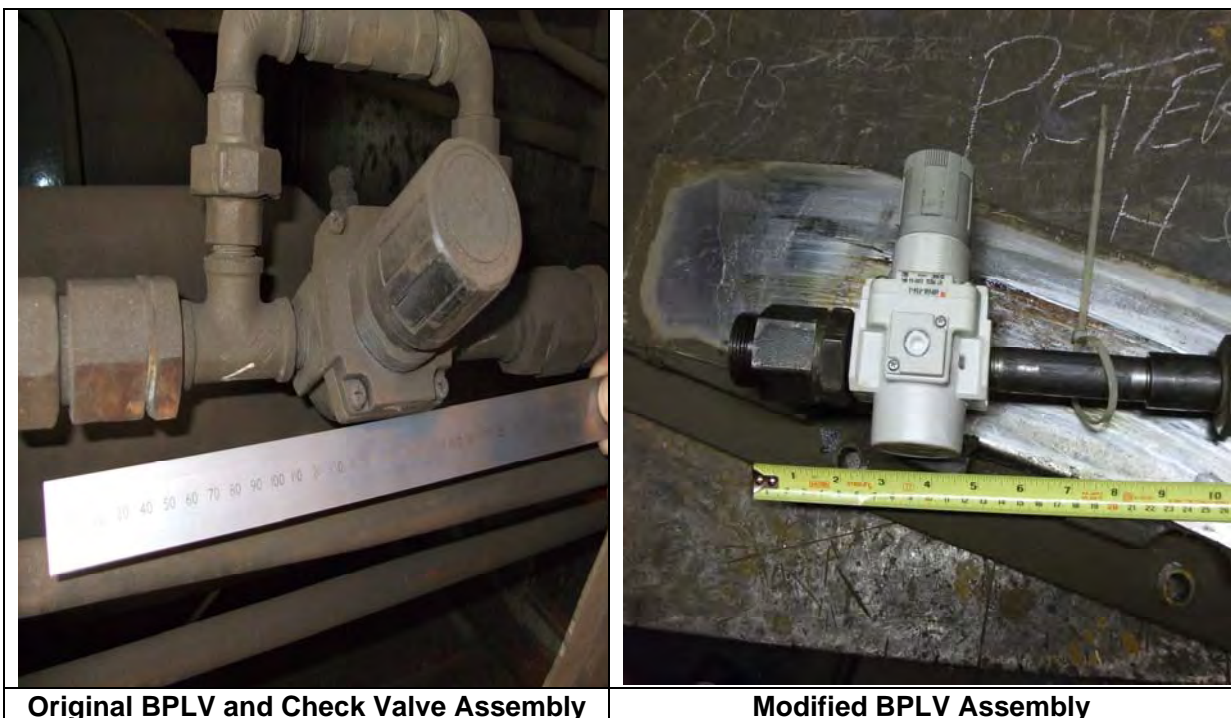

Figure 1: Original and Modified BPLV Arrangements
NOTE 2: Some vehicles have had the original Brake Pipe Limit Valve and Check Valve removed and have been modified by fitting a SMC ARP40K-F04-3 Brake Pipe Limit Valve (see Figure 1) in accordance with the specified document (see Reference Documents item 3). This may be recognised by the absence of a separate check valve. This valve can either be overhauled in accordance with a procedure agreed with the Engineer or renewed in accordance with Part 2 of this job.
1. Renew the BPLV and check valve assembly (see Materials item 1). For additional details refer to the specified Drawing and Figure (see Reference Drawings item 1 and Figure 1).